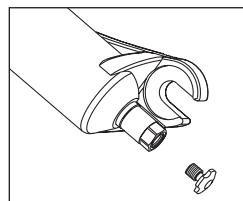

Fig.5
- Unscrew the small cap with your fingers, being careful not to misplace the cap (Fig 5)